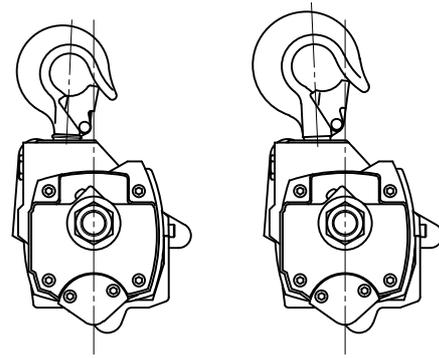

Fig.17
- ② Install Hook(3), and insert eight Steel balls(8).
- ③ Tighten Bolt(10), then lock with Washer(9).
- ④ Check the assembled condition of Hook(3).
Normal conditions are shown in Fig. 17, in which Hook(3) leans slightly away from the center of the unit.